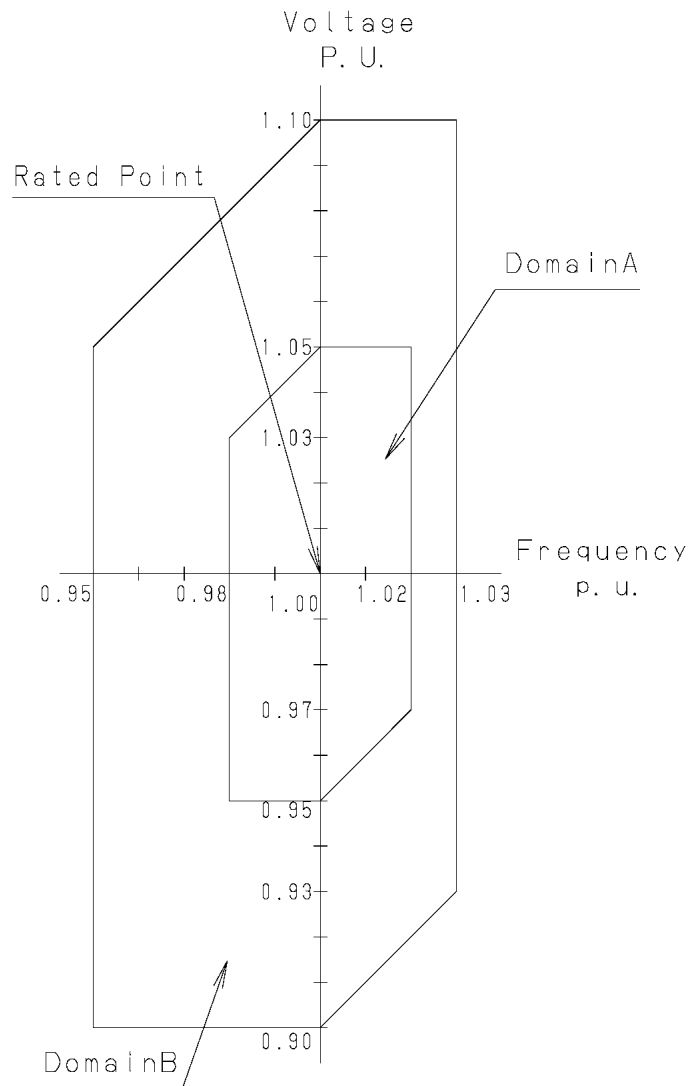

Fig. 3.1 Change region of the voltage and frequency
- 5) When evacuating a vessel, ensure that a shut-off valve is placed between the pump inlet pipe and the vessel (see Fig.3.1).